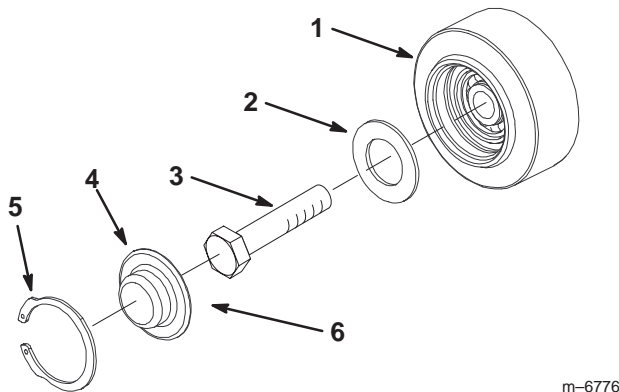

Figure 49
3. Remove the snap ring and cap from a road wheel (Fig. 49).
4. Check the grease under the cap and around the gasket (Fig. 49). If it is dirty, gritty, or depleted, clean out all of the grease, replace the gasket, and add new grease.
6. Place the greased road wheel cap over the bolt head (Fig. 49).
7. Secure the road wheel cap with the snap ring (Fig. 49).